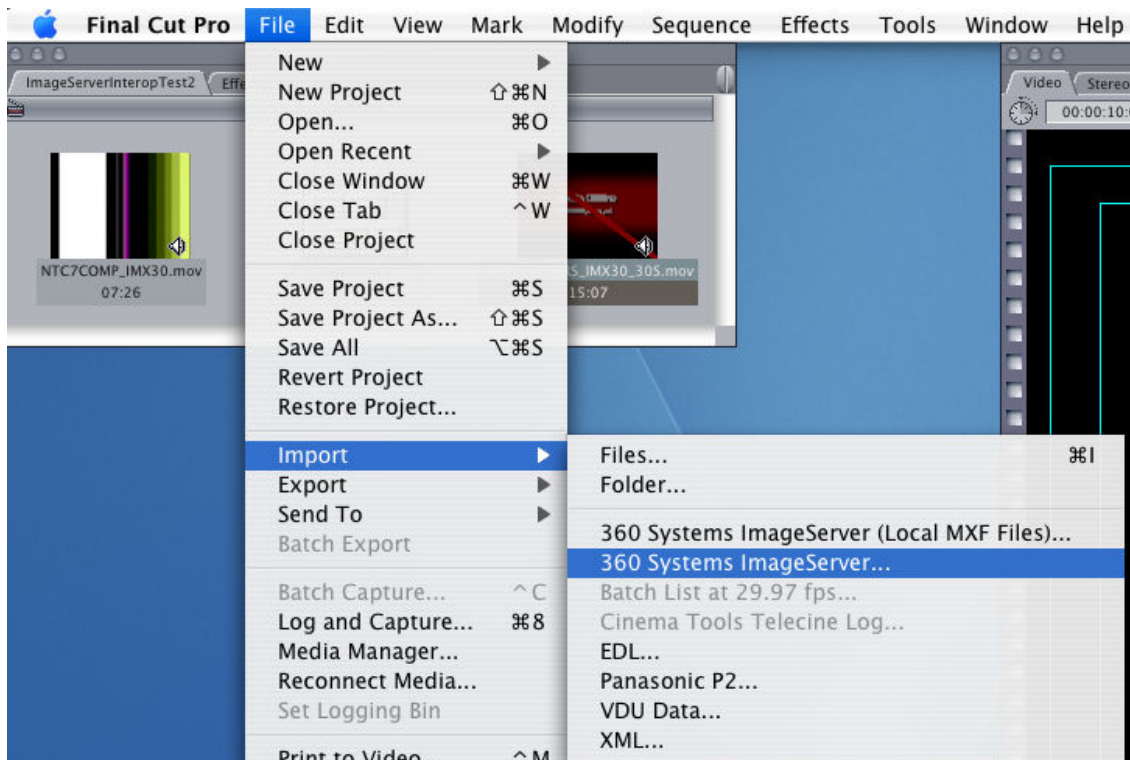

Figure 1 – File Import Menu
- Select File> Import> Image Server per Figure 1